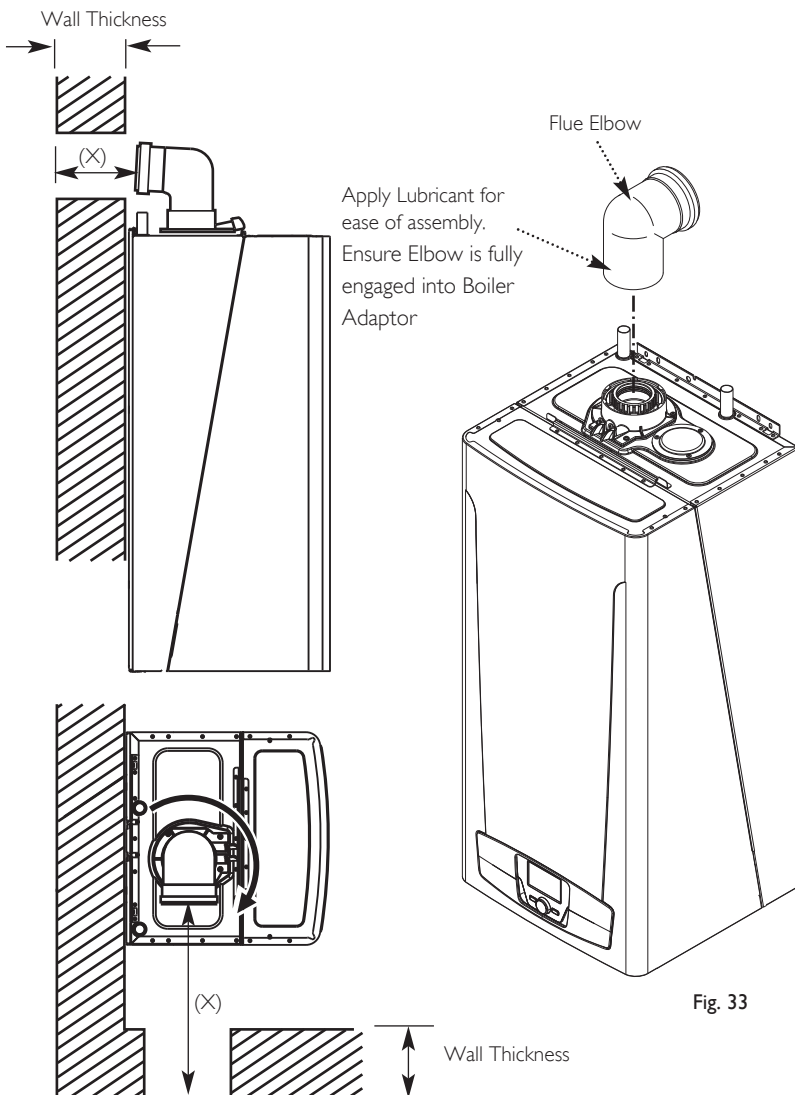

Fig. 32
4. Measure the distance from the outside wall face to the elbow. This dimension will be known as 'X' (Fig. 32).
5. If the distance from the flue elbow to the outside face of the wall ('X' in Fig. 32) is less than 250mm the Connection Assembly can be discarded and the Terminal Assembly cut and fitted directly into the elbow.
6. In instances where the dimension 'X' (Fig. 32) is between 250mm and 315mm it will be necessary to shorten the Terminal Assembly by careful cutting to accommodate walls of these thicknesses.